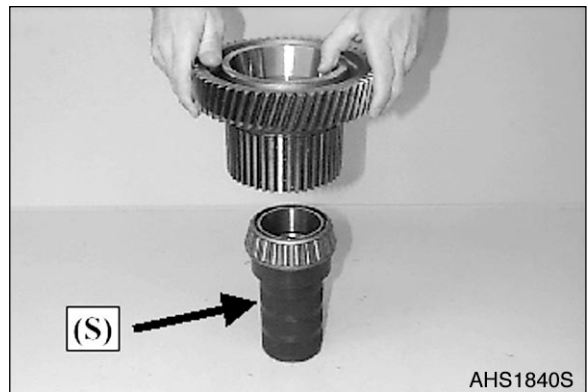
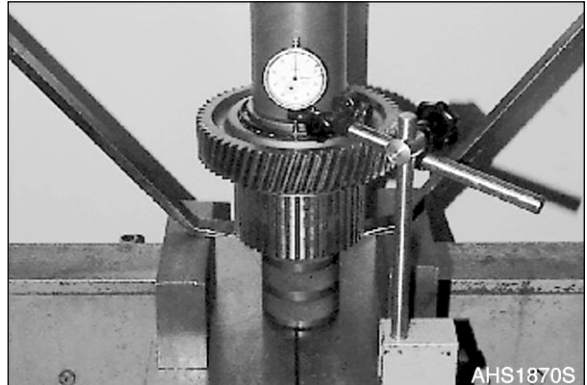

Figure 223
Figure 226
- I. Introduce determined shims (see Figure 223 to Figure 226).